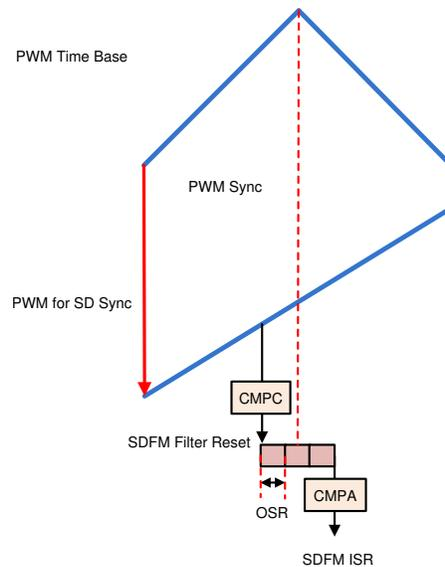

图 11. SDFM Filter Reset Being Generated From PWM Module and ISR Trigger to Read SDF Registers
On these devices, the PWM11 is tied to the SDFM reset generation; hence, the sync generation involves propagation of the sync from the inverter PWM to the PWM11 module. As the SDFM data is only valid 3 OSR time periods after the sync is provided, determine the time to read the SDFM data. 图 11 shows the SDFM filter reset being generated from the PWM module and the ISR trigger to read the SDFM registers.
2. Confirm that the output filter is correct for the mode that the device will run in. For example, voltage source inverter uses an LC filter. The L2 and L2N slot must be jumper wired as shown in 图 11.